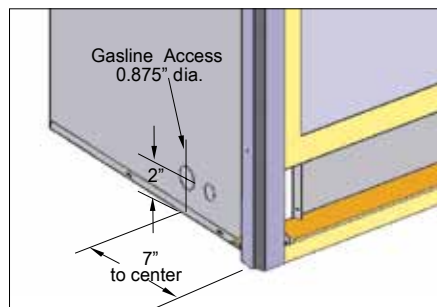

Figure 22. Gas line access.
- See *Figure 22* below for location of gas line access.